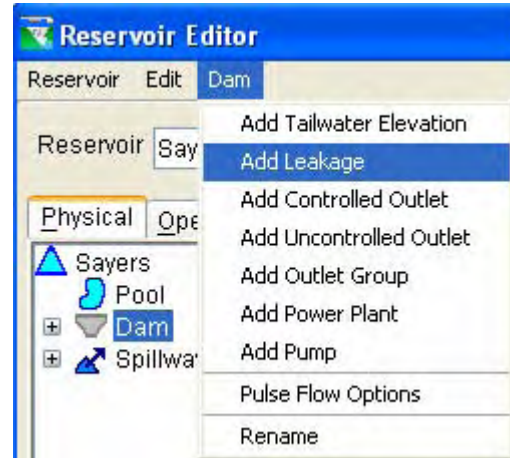
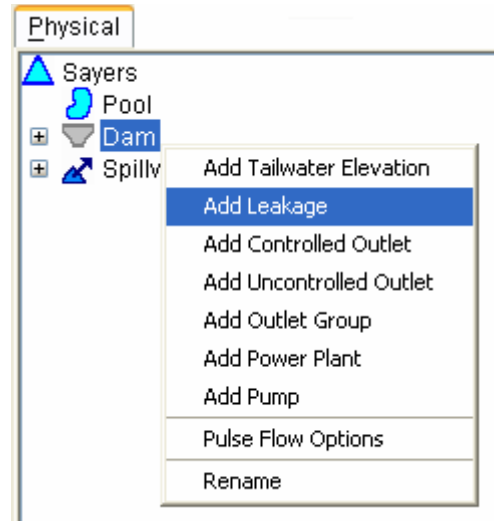

Figure 10.8 Reservoir Editor, Physical Tab: Dam Menu
Figure 10.9 Reservoir Tree: Dam Shortcut Menu
On the Physical tab, you may use either the **Dam** menu in the Reservoir Editor's menu bar (Figure 10.8) or the right-click shortcut menu (Figure 10.9) to specify features of a dam.
2. Select **Add Leakage** from either the **Dam** menu in the Reservoir Editor's menu bar (Figure 10.8) or the right-click shortcut menu of the Dam (Figure 10.9).